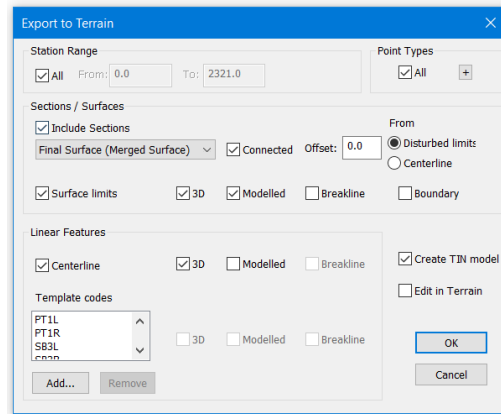

Figure 26-2: Export To Terrain Options Dialogue Box
3. Press **Save**; the *Export to Terrain* options dialogue box will open (Figure 26-2).